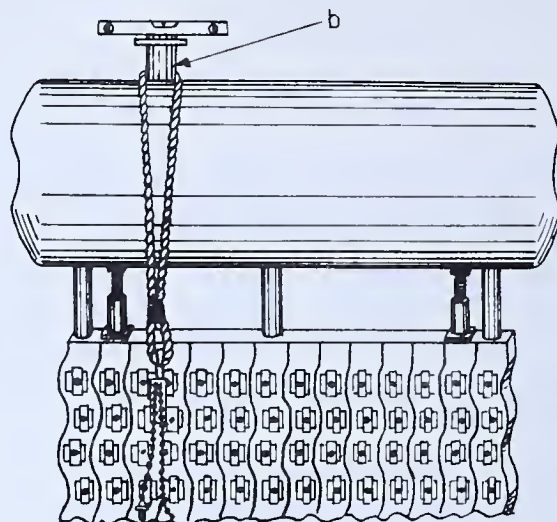

FIG. 479 — *Leveling the Mud Drum*
2. Place special jacks, Fig. 483, on sections of the downtake headers as shown in Fig. 479 and in Fig. 481. (The jacks are on the second sections from each end.)
6. Attach a pendant (Fig. 482) to the steam outlet *b* on the top of the steam drum, Fig. 479, and carry it around to the front of the drum and attach a chain hoist as shown in Fig. 484.